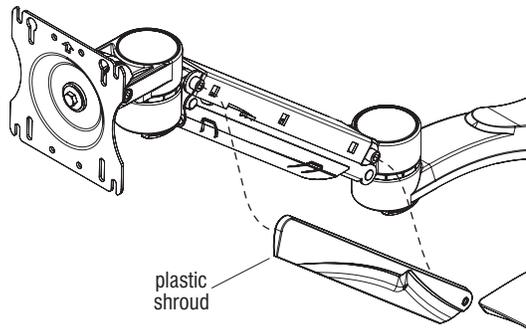

Figure 1 - Adjust the Height Adjustable Segment
1. Remove the plastic shroud on the side of the height adjustable segment (Figure 1).